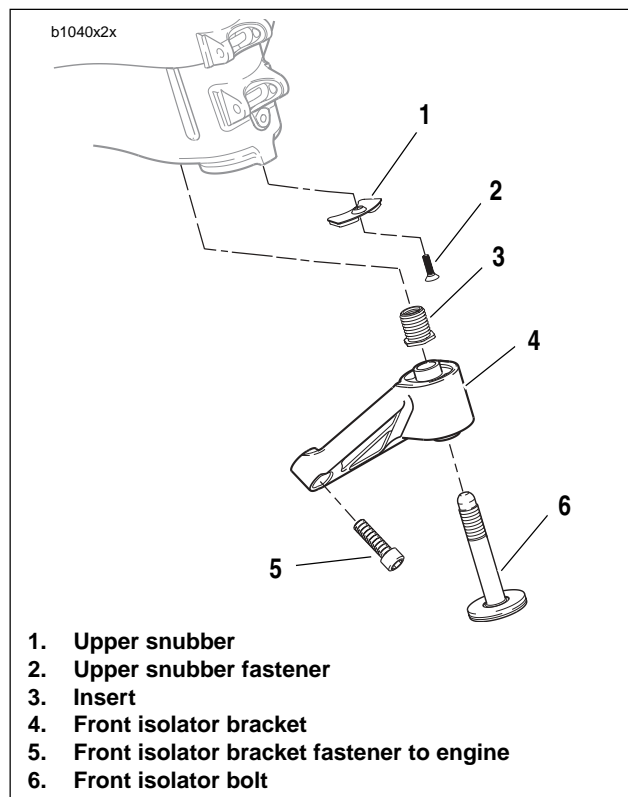

Figure 2-80. Front Isolator
3. See Figure 2-80. Remove front isolator bolt (6).
4. Remove front isolator mount fasteners (5).
5. Remove front isolator bracket (4).
6. Remove upper snubber fastener (2) and remove upper snubber (1).
1. See Figure 2-80. Install upper snubber (1) tightening snubber fastener (2) to 12-36 **in-lbs** (1-4 Nm).
3. See Figure 2-80. Use LOCTITE 272 on front isolator bracket (4) and install. Tightening fastener (5) to 49-51 **ft-lbs** (66-69 Nm).
See Figure 2-80. If the threaded insert (3) is damaged and needs to be replaced, install new insert with LOCTITE 272 and tighten to 49-51 **Ft-Lbs** (66.4-69.1 Nm).